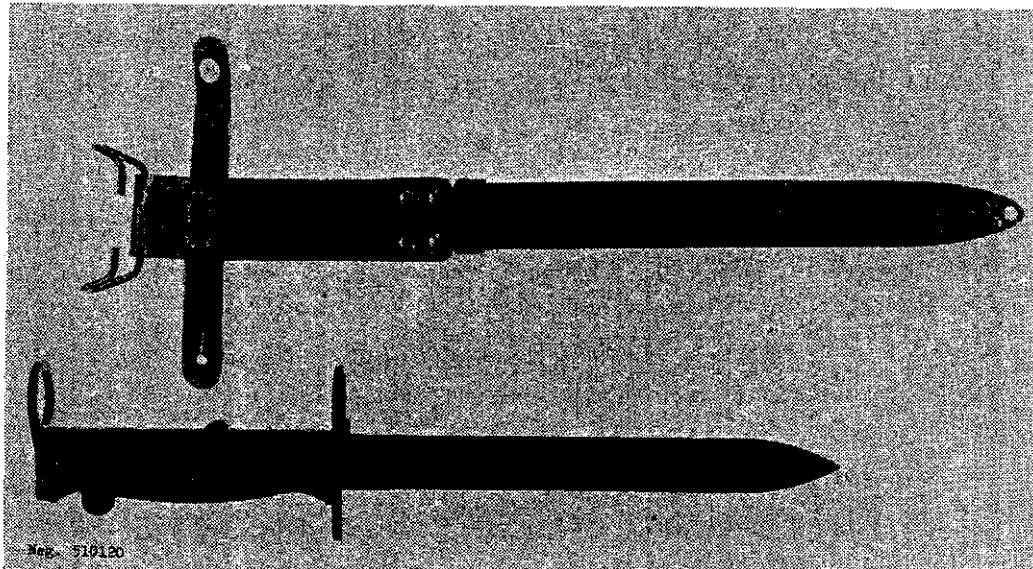

Figure 121. M.A.S. 49/56 bayonet.
- (1) a telescopic sight.
- (2) an infrared sight.
- (3) a night sight (M49/56 only).
- (4) a bayonet (49/56 only) (fig 121).
- (5) cleaning equipment.
- (6) leather web sling.